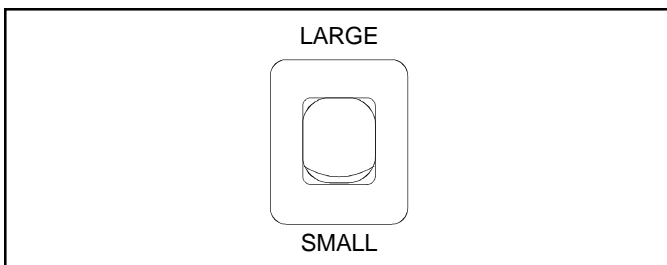

Figure 10
1. Depress *Element Size* switch upward. (Figure 10)